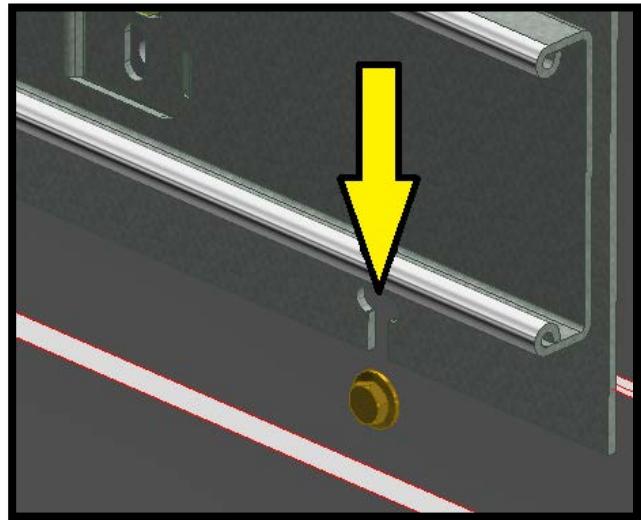

Figure 2: Quick Drop Installation of the Linear Door Operator
The **MONXT** linear door operator uses quick drop installation in its design. To use the Tee slot mounting, partially install (2) 5/16-18 bolts in the two outside threaded holes in the mounting angle steel of the elevator cab top. The bolt positions should correspond to the Tee slots in the header mounting slots. Lift the operator and slide the tee slots down over the two bolts per Figure 2 and tighten. Install bolts in the remaining header slots.